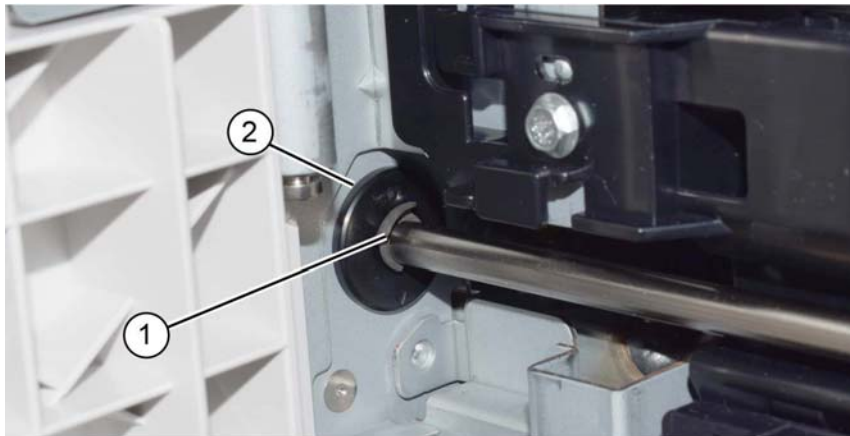

Figure 6 KL-clip removal
4. Remove the KL-clip (1), then the release the bearing (2), Figure 6.